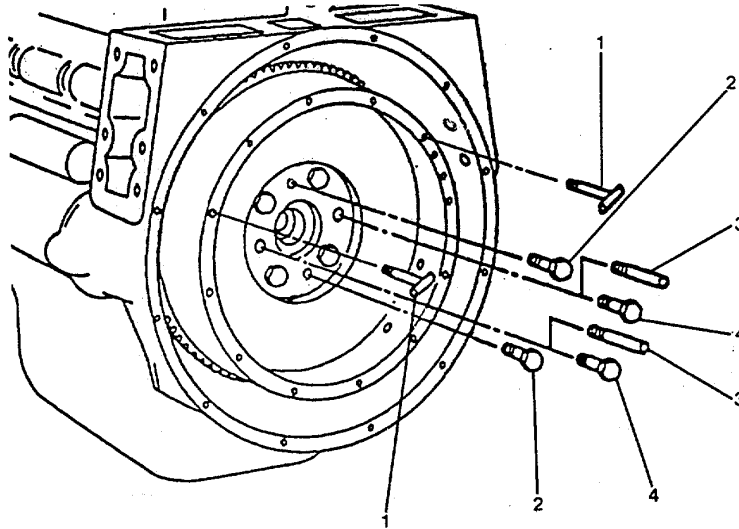
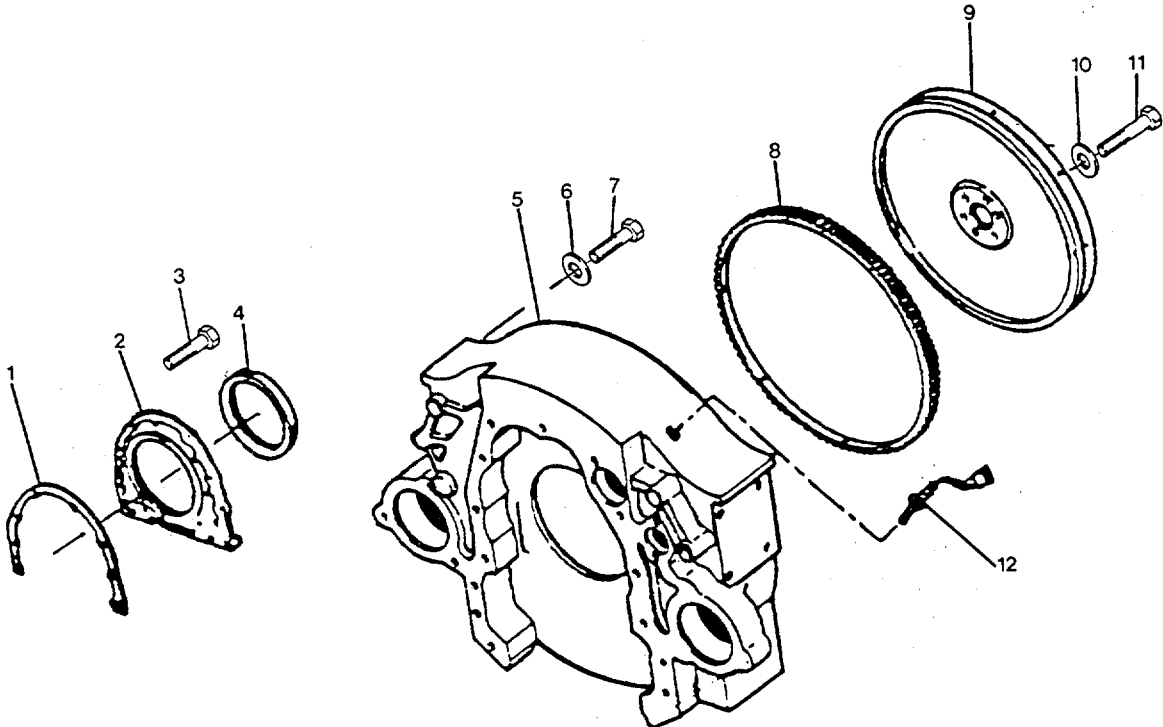
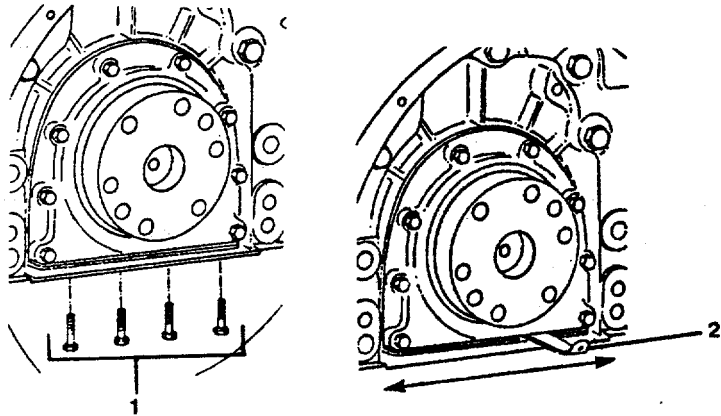

FIGURE 3-61. Guide Studs and T-Handles.
FIGURE 3-62. *Flywheel and Flywheel Housing Group.*
FIGURE 3-64. Rear Cover.
- (1) Install two 1/2-13 x 1-1/2 puller capscrews (2, Figure 3-61) which have a minimum of 1-1/4 inch threaded area.
- (2) Remove two hexagon capscrews (4) and install two 5/8-18 x 6 inch guide studs (3).
- (3) Determine capscrew thread size and install two T-handles (1) in the flywheel.
- (4) Remove the remaining four flywheel capscrews (11, Figure 3-62) and flatwashers (10).
- (5) Tighten the puller capscrews (2, Figure 3-61) in alternating sequence to loosen the flywheel.
- (6) Remove the flywheel (9, Figure 3-62). Spur gear (8) will remain on the flywheel.
- b. Remove the flywheel housing (5) as follows:
- (1) Before removing the housing, unplug the electrical connection of the magnetic pickup (12), loosen the locknut and unscrew the magnetic pickup (12) from the housing (5).
- (2) Loosen the oil pan mounting capscrews four to five turns.
- (3) Remove the four oil pan mounting capscrews (1, Figure 3-64) that secure the oil pan to the rear cover.
- (4) Insert a feeler gauge (2, Figure 3-64) between the rear cover and the oil pan gasket. Move the feeler gauge or the shim stock back and forth to release the gasket from the rear cover.
- a. Install the flywheel housing (5, Figure 3-62).